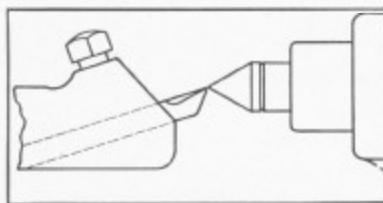

Fig. 54. Set Cutting Edge of Lathe Tool Exactly on Center
- 12—For truing valves, adjust the cutting edge of the lathe tool so that it lines up exactly with the point of the tailstock center. This is necessary in order to get the correct taper on the valve face. See Fig. 54.